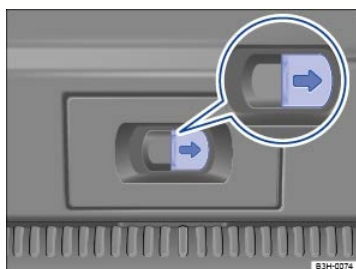

Fig. 75 Inside the luggage compartment: Release lever for opening the trunk lid manually.
- Push the release lever in the direction of the arrow ⇒ Fig. 75 to unlock and open the trunk lid.